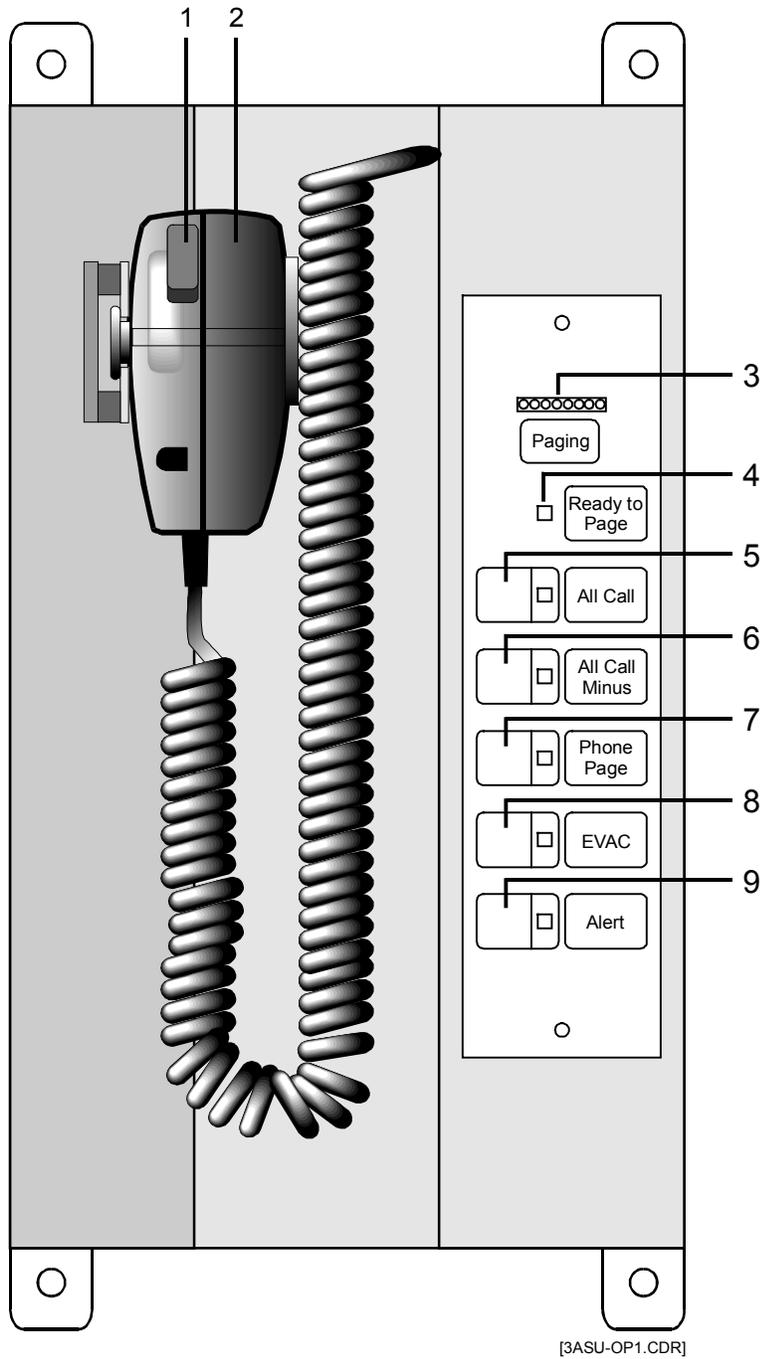

Figure 3-1: 3-ASU controls and indicators
**Functional description of 3-ASU controls and indicators (see Figure 3-1)**